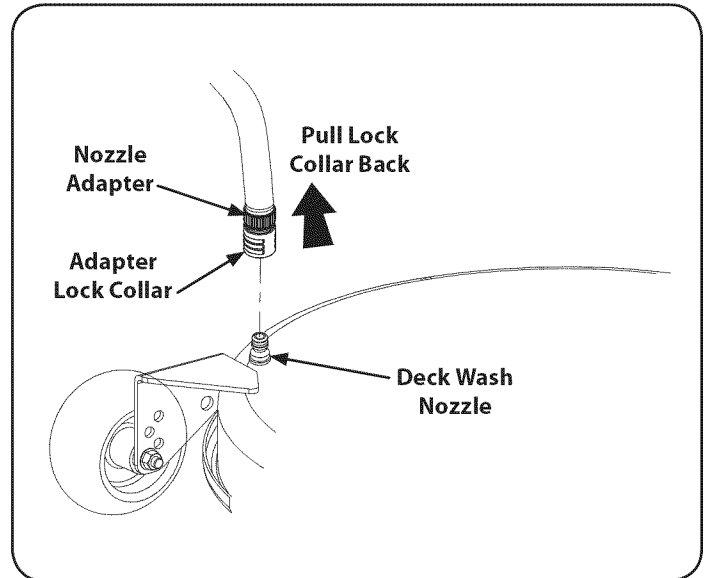

Figure 31
3. Pull back the lock collar of the nozzle adapter and push the adapter onto the deck wash nozzle at the left end of the mower deck. Release the lock collar to lock the adapter on the nozzle. Refer to Figure 31.